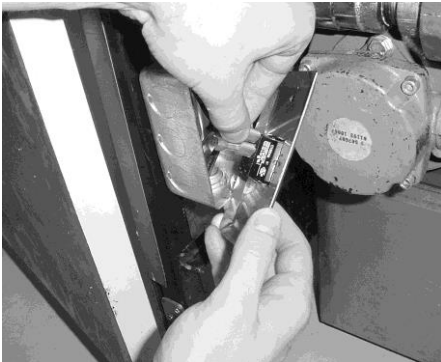

Figure 2-70
2. Open the door (left door on 2 well units), and remove the 2 screws securing the switch box cover and pull filter motor wires from filter switch. Figure 2-70.